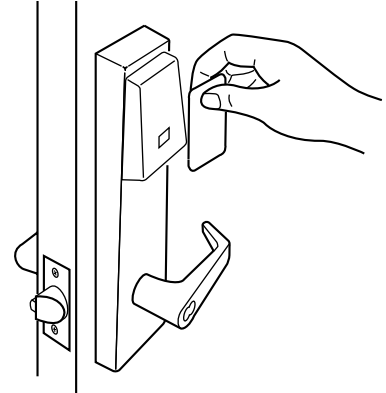

Figure 21
- 1 Place the temporary operator card in front of the proximity reader (see Figure 21).